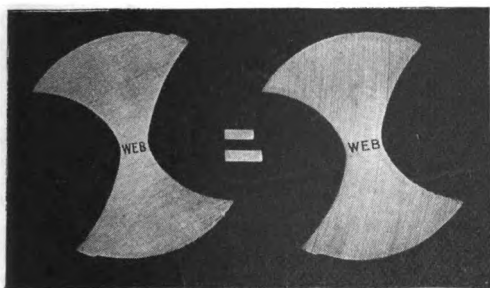

Fig. 4
- 14 *The Web* is the metal column which separates the flutes. It runs the entire length of the drill between the flutes. (Fig. 3.) This Web is the supporting section of the drill — the drill's "backbone," in fact. It gradually increases in thickness toward the shank. (Fig. 4.) This thickening of the Web gives additional rigidity to the drill.